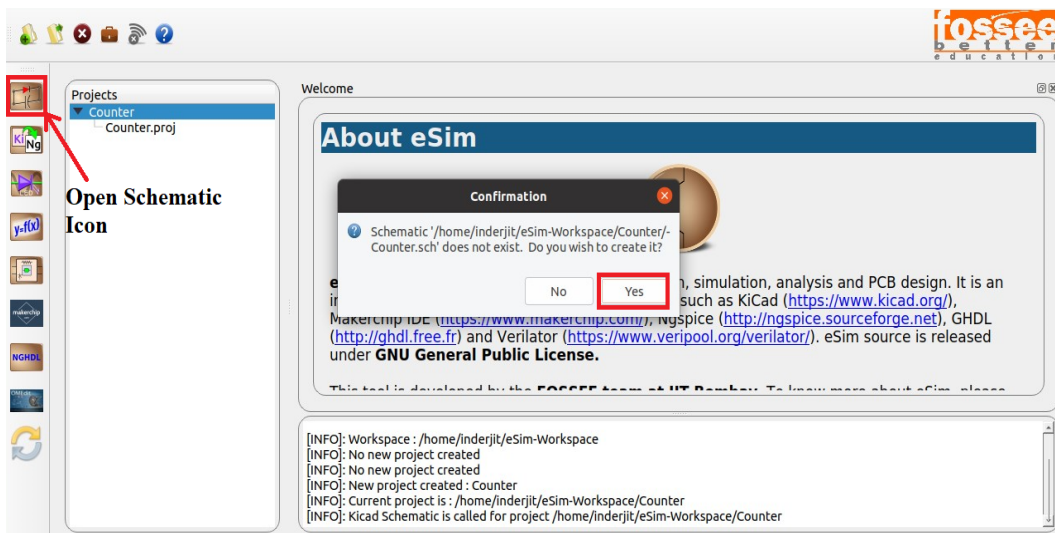
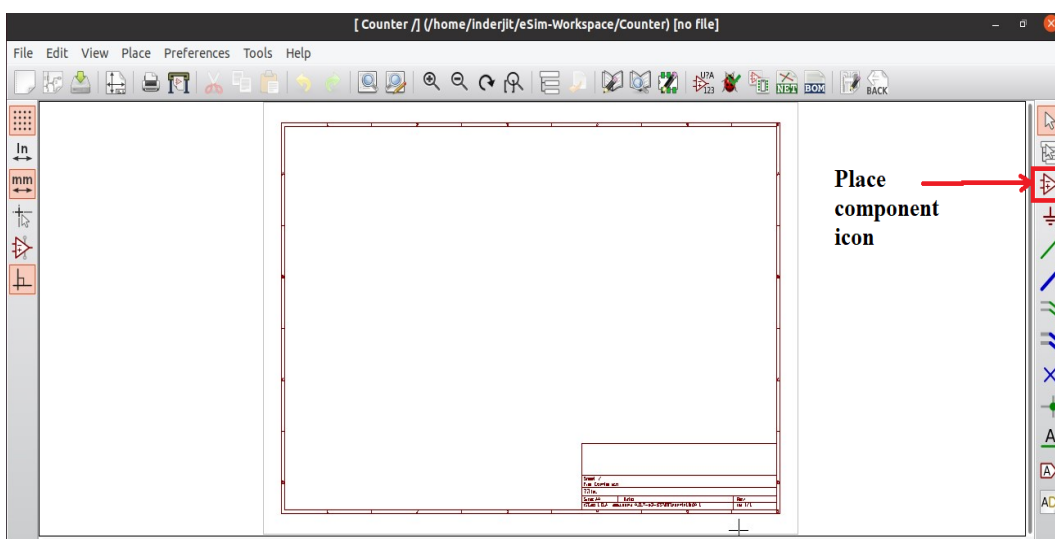
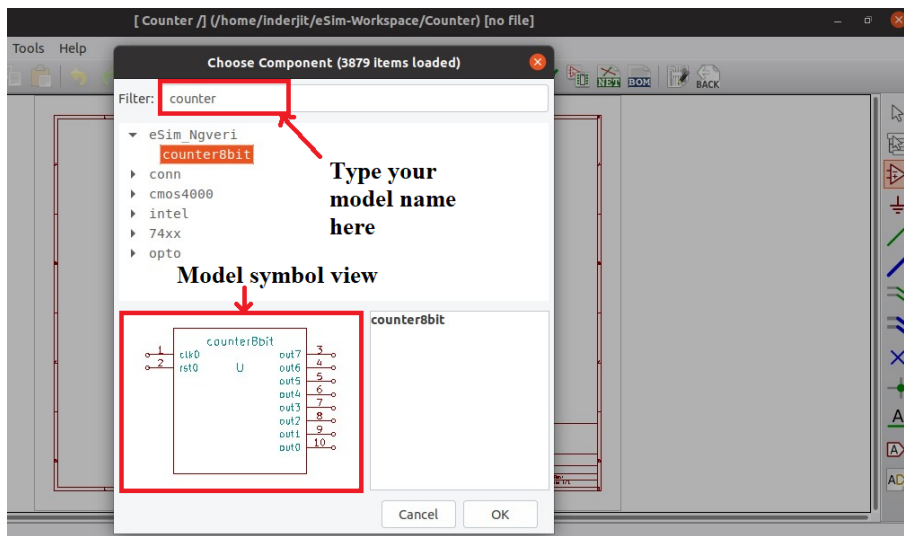
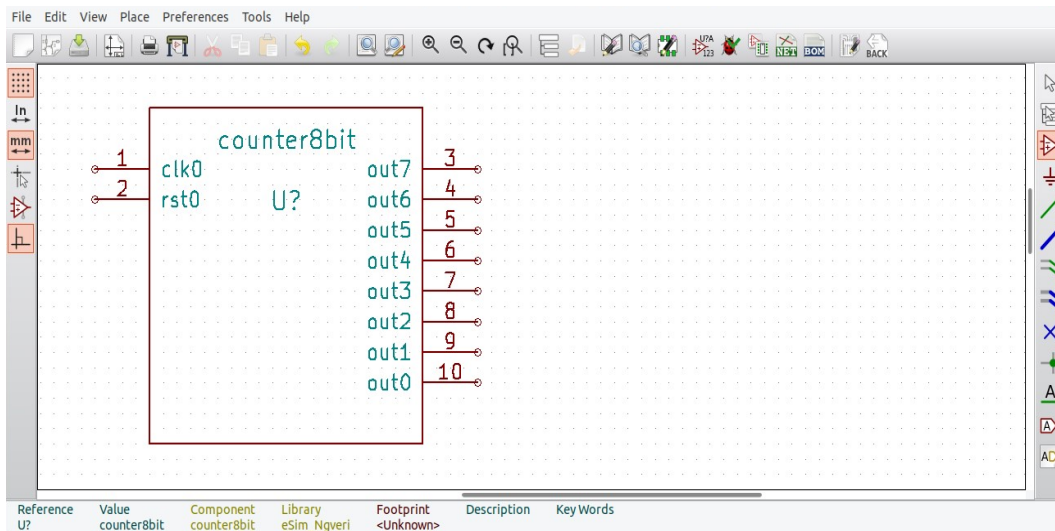

Figure 11.27: Creation of new schematic in eSim
Figure 11.28: Blank schematic created in eSim
Figure 11.29: Locating the model in library
Figure 11.30: Placement of component in Schematic Editor
2. After successful creation of NgVeri model using the Verilog code, you can create the schematic of your design by clicking on **Open Schematic** button on the left pane of the eSim window as shown in Fig. 11.27. A confirmation pop-up window appears. Click on **Yes** to create a new schematic. A blank schematic created is shown in Fig. 11.28
3. Next step is to click on **Place component** icon to place the components in the schematic editor as shown in Fig. 11.28.
4. To locate the components in eSim library, click on **Place component** icon as shown in Fig. 11.28. A pop-up window named **Choose Component** appears. User can type component name in the space as shown in Fig. 11.29.
- In this example, counter8bit model is created under eSim NgVeri library. The model view is visible with two input pins reset and clock and 8 output pins from out0 to out7 as shown in Fig. 11.29. Click on **OK** to place the component on the schematic editor as shown in Fig. 11.30.